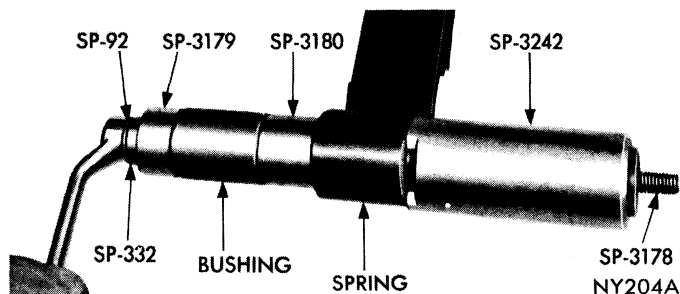

Fig. 15—Pivot Bushing Replacement
The removal of old bushings and installation of new bushings is performed in one operation, using Tool C-3709 (Fig. 15).
(1) Raise vehicle on hoist to a comfortable working position.
(2) Using floor stands under axle assembly, raise axle assembly to relieve weight on rear spring.
(3) Disconnect rear shock absorber at spring plate lower mounting stud. Lower axle assembly, permitting rear springs to hang free.
(4) To replace front pivot bushing, remove rear spring front hanger from body bracket. Remove pivot bolt and hanger from spring.
(5) Place new bushings on Tool C-3709 (Fig. 15), arrange tool in spring eye, then press out old bushing while pressing in new bushing in one operation.
(6) Assemble front hanger to spring but do not tighten pivot bolt nut until full weight of vehicle is on wheels.
(7) Attach spring hanger to body bracket and tighten mounting bolts to 30 foot-pounds.
(8) To replace rear spring shackle bushings remove rear spring hanger from body bracket. Remove shackle, then slide bushings out of spring and hanger.